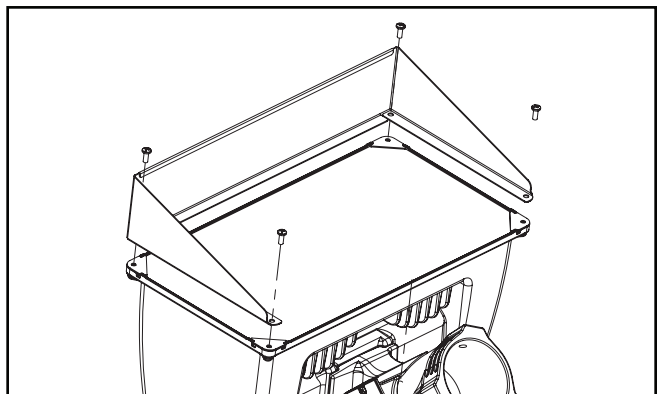

Figure 7.
Visor (Figure 7.)
1. Loosen and remove the existing (4) 10-24 Philips head screws on the face of the fixture and retain for future reference.
2. Align visor on top of lens clips matching the 4 existing holes. See Figure 7.